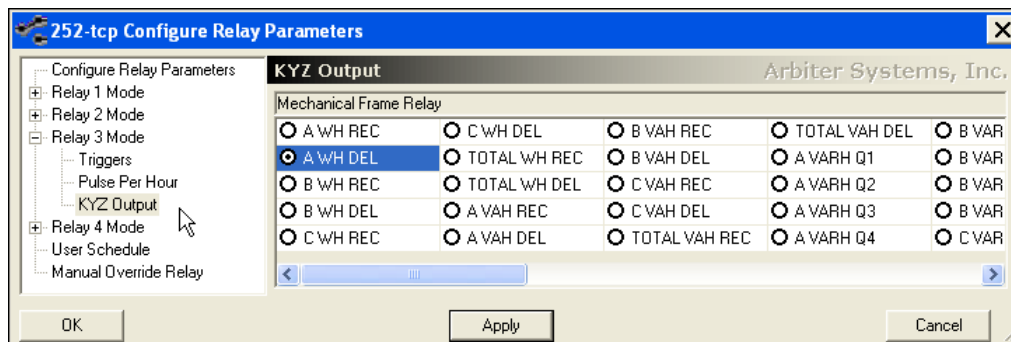

Figure 7.15: Configure KYZ Mode
1. Select KYZ mode by selecting the specific relay and choosing “KYZ Only.” See Figure 7.15. Click the + sign to expand the sub-tree to reveal the modes. Select “KYZ Output” under the relay and then select the energy value for recording.